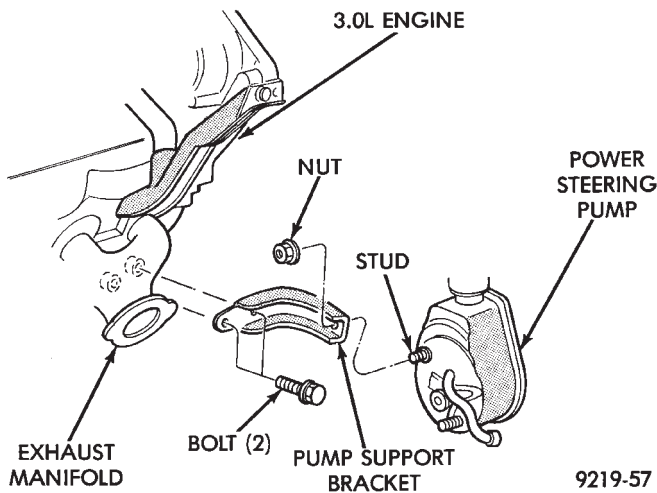

Fig. 7 Power Steering Support Bracket
(8) Remove nut holding the power steering pump rear support bracket to pump (Fig. 7). Then remove the 2 bolts (Fig. 7) mounting the power steering pump support bracket to engine and remove bracket from vehicle.
(3) Install the rear power steering pump to engine block support bracket, onto the stud on back of power steering pump (Fig. 7). Then install the 2 bolts mounting the support bracket to the engine block. Torque the 2 support bracket to engine block mounting bolts to 54 N•m (40 ft. lbs.).
(4) Install the nut on stud of power steering pump attaching pump to rear support bracket (Fig. 7). Torque nut to 54 N•m (40 ft. lbs.).